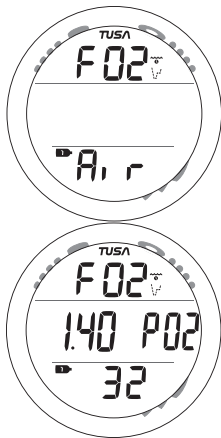

Fig. 58 - PLAN LEAD-IN
**Plan Lead-in**, information includes (Fig. 58):